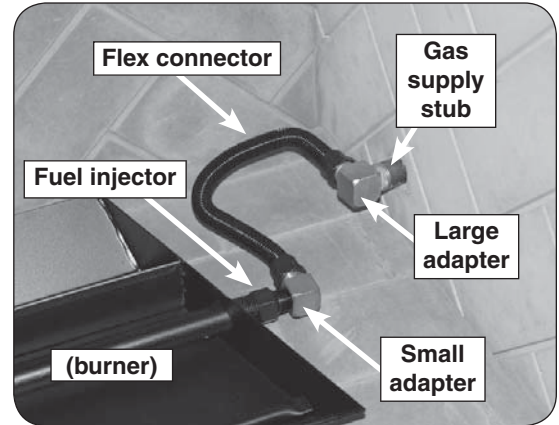

Fig. 9-1 Connect gas supply
2. Locate the gas-supply stub inside the fireplace and remove the cap, if attached (reference Fig. 9-1).
3. Remove the small adapter connected to the flex connector (included). Attach the adapter to the fuel injector found on the side of the burner pan using a pipe compound resistant to all gasses. Tighten securely. Then attach the flex connector to the adapter. Tighten securely (See Fig. 9-1).
5. **Be sure gas to the fireplace is off.** Remove the large adapter connected to the flex connector. Attach the adapter to the gas-supply stub using a pipe compound resistant to all gasses. Tighten securely. Then attach the flex connector to the adapter. Tighten securely (See Fig. 9-1).